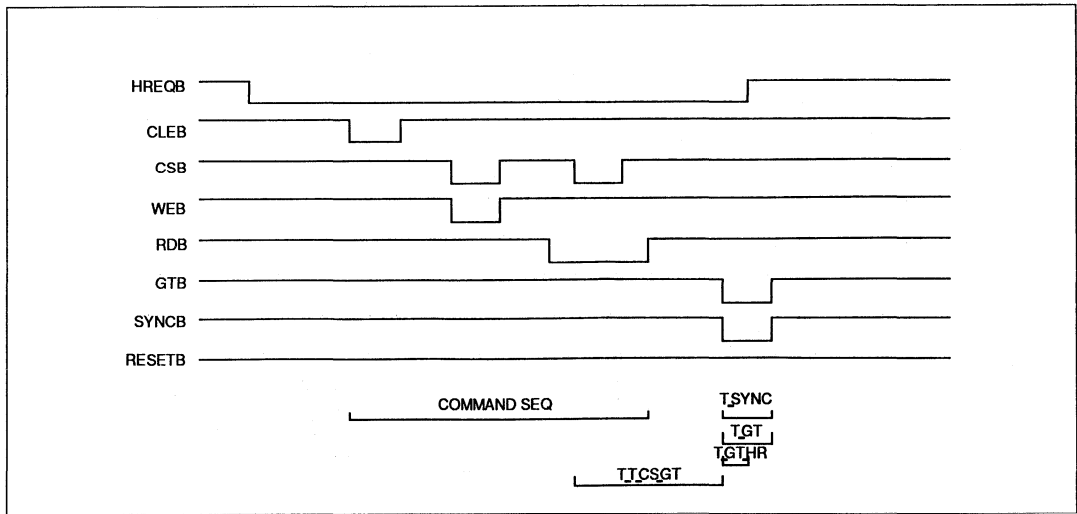

Figure 2.8: Transmit Mode (No Data)
**TRANSMIT MODE CODE (NO DATA)** (Figure 2.8)